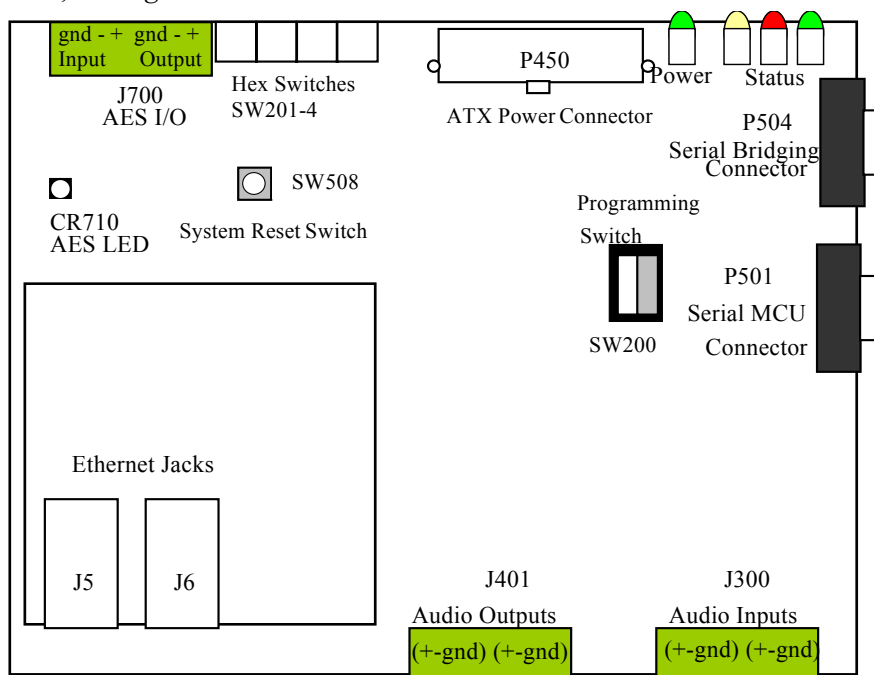
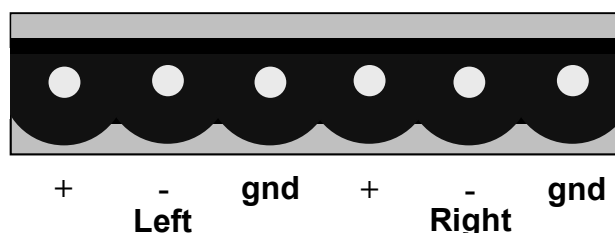
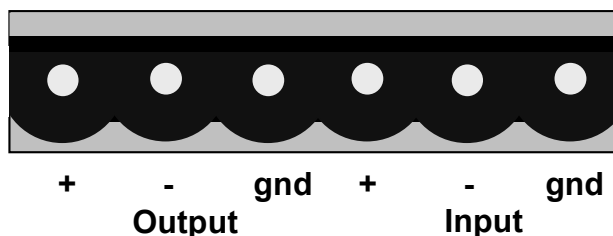

Figure 3. Connector, Switch and Jack Locations
Figure 5. Analog Audio Input and Output Phoenix-style Connectors
Figure 6. AES/EBU I/O Phoenix-style Connector
- Using the supplied Phoenix connectors, build audio input and output cables and two AES/EBU cables (if desired). These will be used to connect your audio input and output devices to the EV-2 modules. For analog audio pin assignments, see *Figure 3* or *Figure 5* below. For AES/EBU pin assignments, see *Figure 6* below.
Audio Input Connector: Phoenix-style connector for two-channel balanced audio input, +14.4 dBu maximum (0 dBFS). Refer to *Figure 5* for the signal connection.
Audio Output Connector: Phoenix-style connector for two-channel balanced audio output, +15.8 dBu maximum (0 dBFS). Refer to *Figure 5* for the signal connection.
AES/EBU I/O Connector: Phoenix-style connector for an AES/EBU stream. Refer to *Figure 6* for the signal connection. For the AES/EBU tranceiver to operate properly a valid AES/EBU signal must be provided at the AES/EBU input.